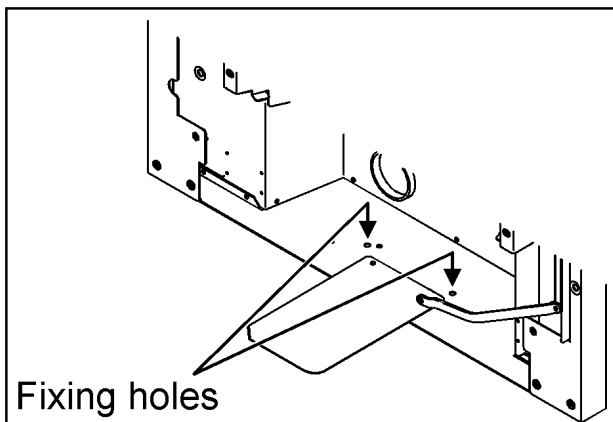

Figure 22.
8. Drill a hole into the fireplace floor through each of the two holes in the base of the convection box using a suitably sized masonry drill for the fibre / wooden plugs supplied (See figure 22).